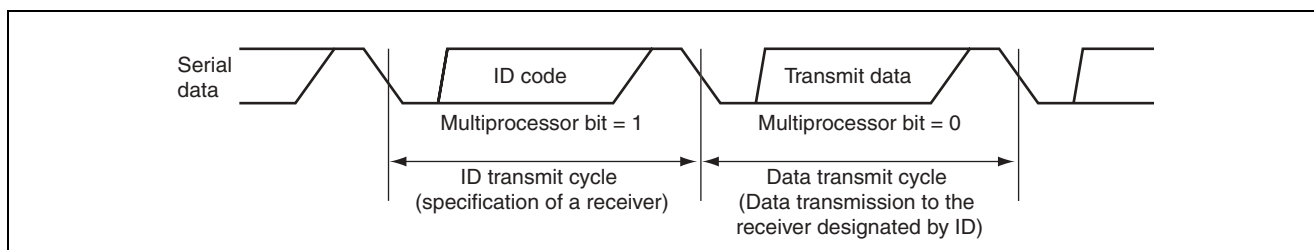

Figure 2.1 Serial Data in Which the Multiprocessor Bit is Used
- Figure 2.1 shows serial data in which the multiprocessor bit is used and table 2.1 shows the multiprocessor format.